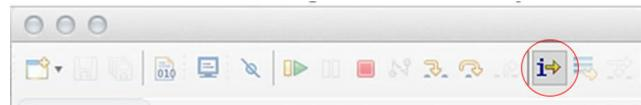
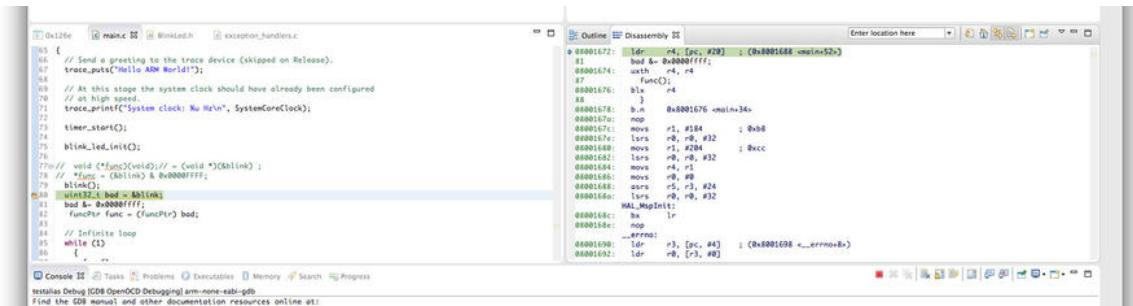

Figure 11: The *Instruction Stepping Mode* icon on the Eclipse toolbar
Figure 12: The disassembly view
*Instruction Stepping Mode* is enabled by clicking on the related icon on the Eclipse main toolbar, as shown in **Figure 11**. Once enabled, the *Disassembly* appears, as shown in **Figure 12**. Eclipse will automatically show ARM assembly instructions corresponding to the current C instruction.